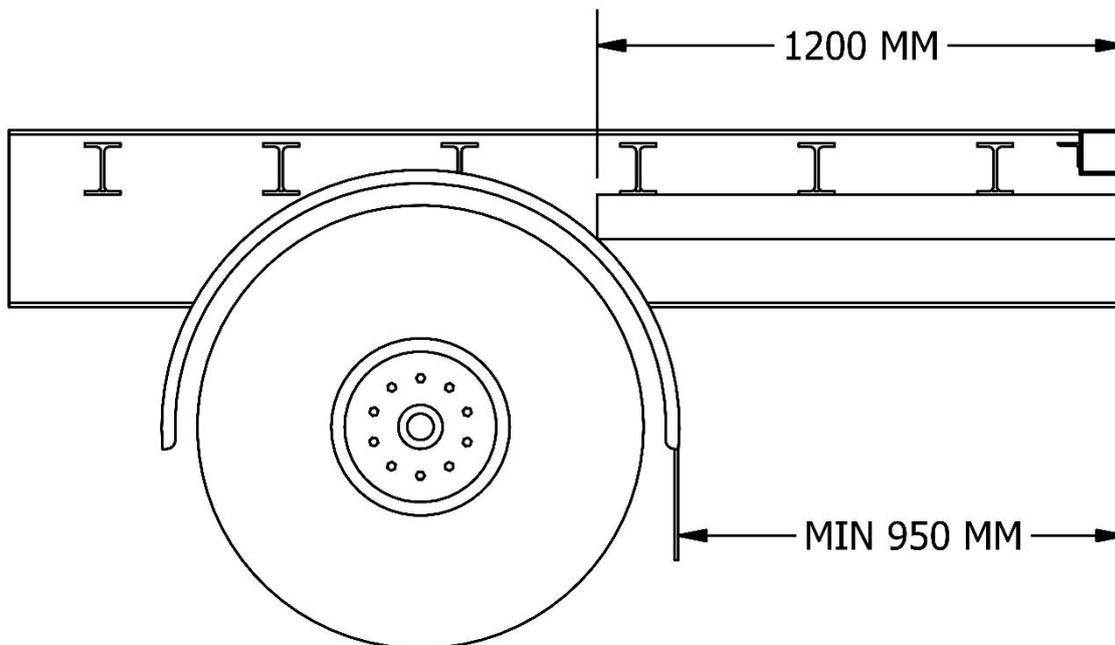

Figure 1 (Chassis Check Dimensions)
1. The distance between the rear of the chassis and the nearest point of the rear wheel mudguards is at least 950 mm (Figure 1)
2. There is 1200 mm of space available for the fork slippers (Figure 1)